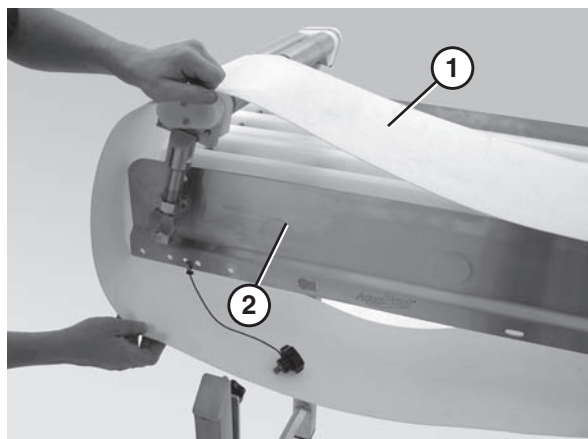

Figure 46
7. Slide the old belt (**Figure 46, item 1**) off the conveyor frame (**Figure 46, item 2**).